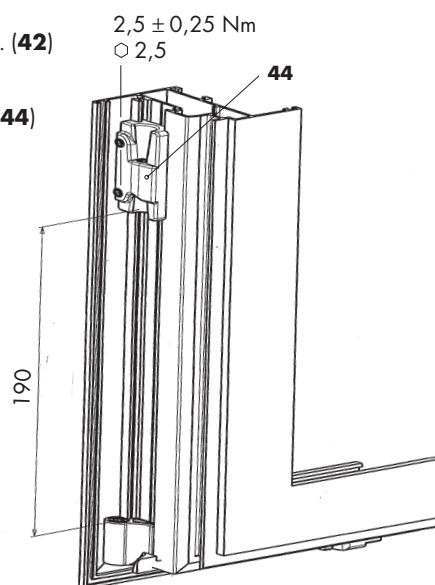

Fig. 3
1. Insert BSU A0040 right/left sash part (44) into the sash groove and secure it (fig. 3).
5. Position the BSU A0040 right/left sash part (44) as shown (fig. 3) and fix in place with 2.5 ± 0.25 Nm.